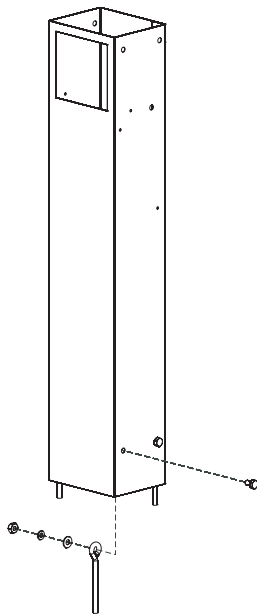

Figure 1
Attach four 1/4-20 x 4" eyebolts (8) to the bottom of the 26" square post (7) using 1/4 - 20 x 3/4" bolts (5), 9/32 ID x 5/8 OD flat washers (1), 1/4 lock washers (2), and 1/4-20 hex nuts (3). Figure 1.